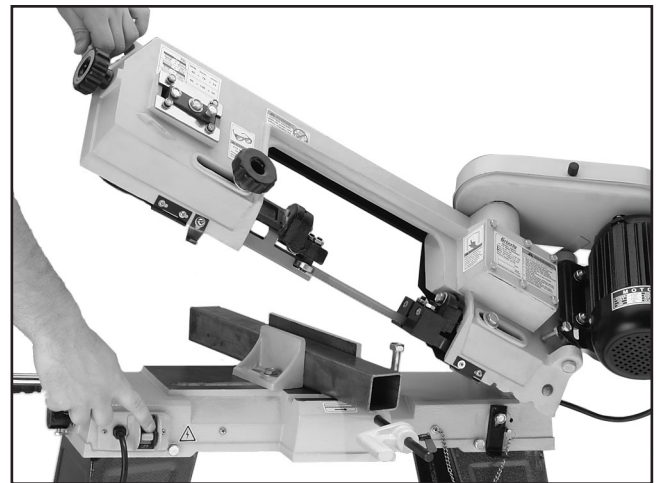

Figure 31. Proper starting position.
- Let the blade reach full speed before engaging the workpiece. Never start a cut with the blade in contact with the workpiece (see **Figure 31**).